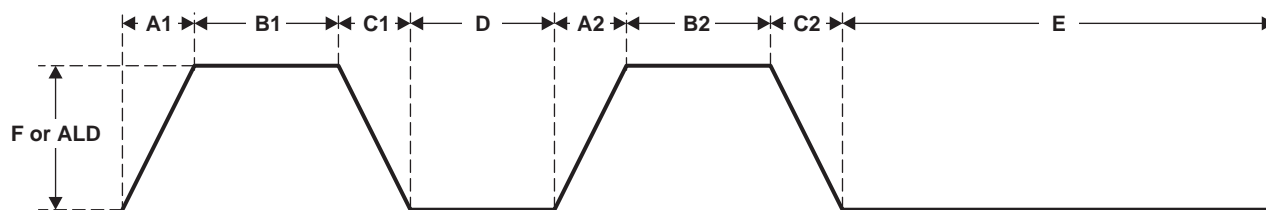

Figure 7. LED Intensity Per Bank
The Fade-On Time register (register 3) defines the time from the fully-off state to the fully-on state for the LED per region A in Figure 7. The first four bits (C7–C4) in this register set the fade-on time for BANK1, and the next four bits (C3–C0) set the fade-on time for BANK0. The data for each bank is a binary number between 0 and 15. For BANK1, the MSB is bit C7, while the least significant bit (LSB) is bit C4. For BANK0, the MSB is bit C3 while the LSB is bit C0. See Table 13 for more information.
The Fully-On Time register (register 4) defines the time spent at maximum intensity between the fade-on state and fade-off state for the LED per region B in Figure 7. The first four bits (C7–C4) in this register set the fully-on time for BANK1, and the next four bits (C3–C0) set the fully-on time for BANK0. The data for each bank is a binary number between 0 and 15. For BANK1, the MSB is bit C7, while the LSB is bit C4. For BANK0, the most significant bit (MSB) is bit C3, while the LSB is bit C0. See Table 13 for more information.
The Fade-Off Time register (register 5) defines the time from the fully-on state to the fully-off state for the LED per region C in Figure 7. The first four bits (C7–C4) in this register set the fade-off time for BANK1, and the next four bits (C3–C0) set the fade-off time for BANK0. The data for each bank is a binary number between 0 and 15. For BANK1, the MSB is bit C7, while the LSB is bit C4. For BANK0, the MSB is bit C3, while the least significant bit (LSB) is bit C0. See Table 13 for more information.
The first and second Fully-Off Time registers (registers 6 and 7) define the time spent at zero intensity (in the fully-off state of the LED) per region D and E, respectively, in Figure 7. The first four bits (C7–C4) in this register set the fully-off time for BANK1, and the next four bits (C3–C0) set the fully-off time for BANK0. The data for each bank is a binary number between 0 and 15. For BANK1, the MSB is bit C7, while the LSB is bit C4. For BANK0, the MSB is bit C3, while the LSB is bit C0. See Table 13 for more information.
The Maximum Intensity register (register 8) defines the duty cycle of the waveform driving the LED in its fully-on state per region F in Figure 7. The first four bits (C7–C4) in this register set the duty cycle for BANK1 and the next four bits (C3–C0) set the duty cycle for BANK0. The data for each bank is a binary number between 0 and 15. For BANK1, the MSB is bit C7, while the LSB is bit C4. For BANK0, the MSB is bit C3, while the LSB is bit C0. The values in this register also define the LED intensity indicated by the BRIGHT\_F0 or BRIGHT\_F1 modes. The intensity of each LED is updated 125 times per second (every 8 ms with a 32-kHz clock).
**Table 15. Intensity Parameters (see Figure 7)**
Bits 6–7 determine whether each PWM operates in normal or one-shot mode. Bit 6 supports PWM0 and bit 7 is for PWM1. If bit 6 (or bit 7) is 0, PWM0 (or PWM1) operates in the normal mode where the LEDs goes through the full intensity cycle defined by Table 15 and Figure 7. If bit 6 (or bit 7) is 1, PWM0 (or PWM1) operate in the one-shot mode. In this mode, the LEDs can be used to create a single-shot lighting effect where the LED intensity is valid for a particular segment of the cycle shown in Table 15 and Figure 7.